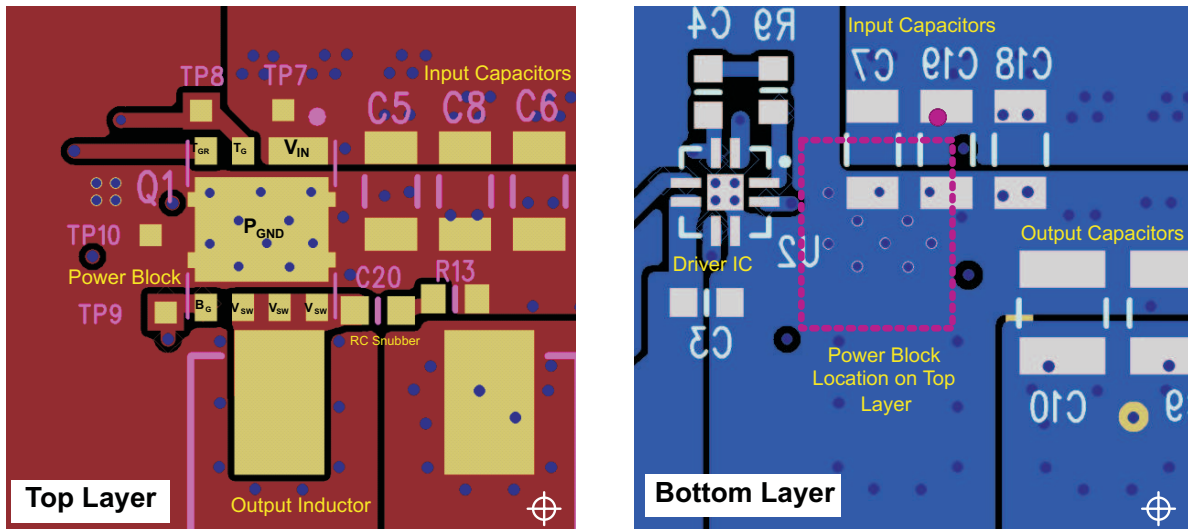

Figure 33. Recommended PCB Layout (Top View)
- The placement of the input capacitors relative to the Power Block's VIN and PGND pins should have the highest priority during the component placement routine. It is critical to minimize these node lengths. As such, ceramic input capacitors need to be placed as close as possible to the VIN and PGND pins (see Figure 33). The example in Figure 33 uses 6 × 10-μF ceramic capacitors (TDK Part # C3216X5R1C106KT or equivalent). Notice there are ceramic capacitors on both sides of the board with an appropriate amount of vias interconnecting both layers. In terms of priority of placement next to the Power Block, C5, C7, C19, and C8 should follow in order.
- In the event the switch node waveform exhibits ringing that reaches undesirable levels, the use of a Boost Resistor or RC snubber can be an effective way to reduce the peak ring level. The recommended Boost Resistor value will range between 1 Ω to 4.7 Ω depending on the output characteristics of Driver IC used in conjunction with the Power Block. The RC snubber values can range from 0.5 Ω to 2.2 Ω for the R and 330 pF to 2200 pF for the C. Refer to TI App Note SLUP100 for more details on how to properly tune the RC snubber values. The RC snubber should be placed as close as possible to the Vsw node and PGND see Figure 33.⁽¹⁾
- Use the smallest drill size allowed in your design. The example in Figure 33 uses vias with a 10 mil drill hole and a 16 mil capture pad.